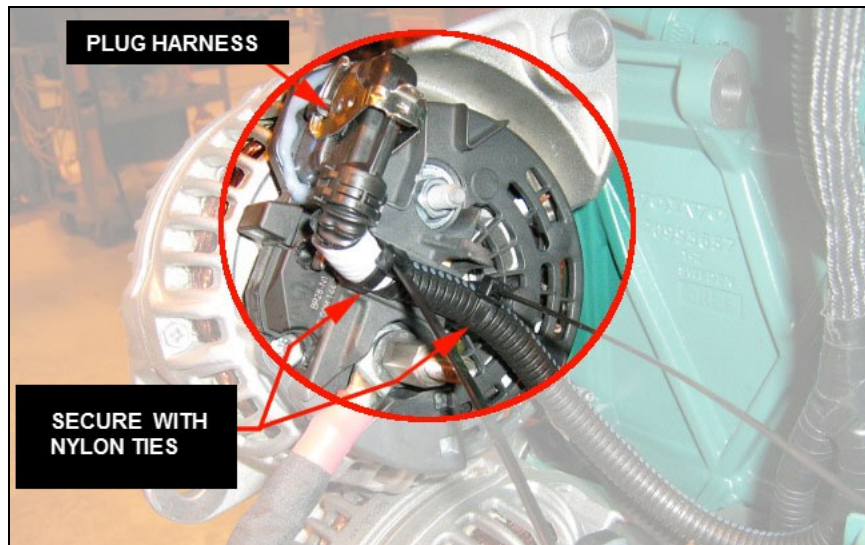

FIGURE 25
- Plug alternator harness onto alternator connector and secure using nylon cable ties (FIGURE 25).